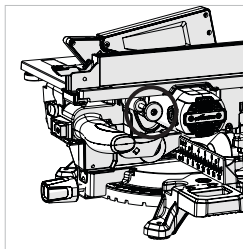

Fig. 4
- Pull out pin (Fig. 4) to release the motor.
- Pull out pin **(Fig. 4)** to release the motor.